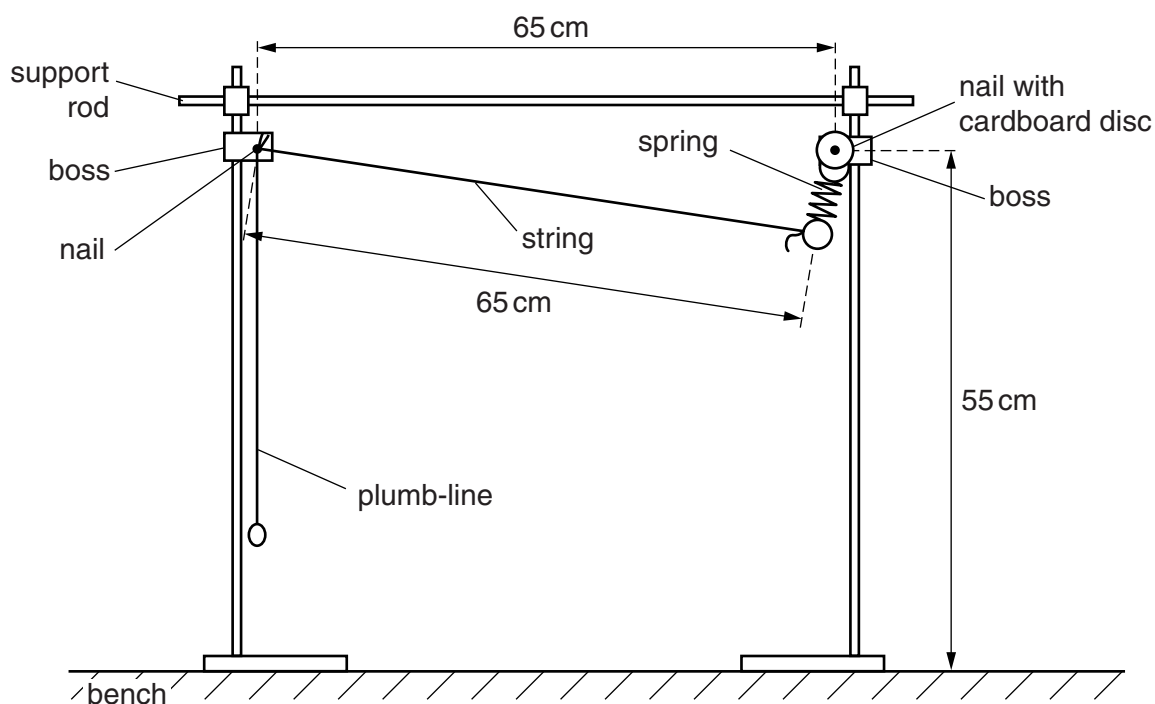

Fig. 1.1
- 1 The apparatus should be assembled as shown in Fig. 1.1. The 100 cm length of string should be tied to the nail on the left and to the loop of the spring.